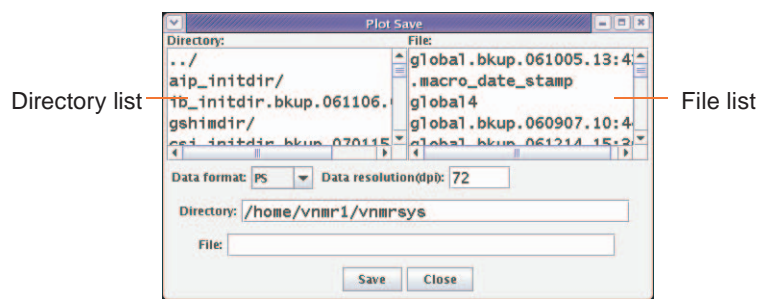

Figure 31. Plot Save Window
1. Click on **File** in the Main Menu, then **Save Data** to open the Plot Save window shown in Figure 31.